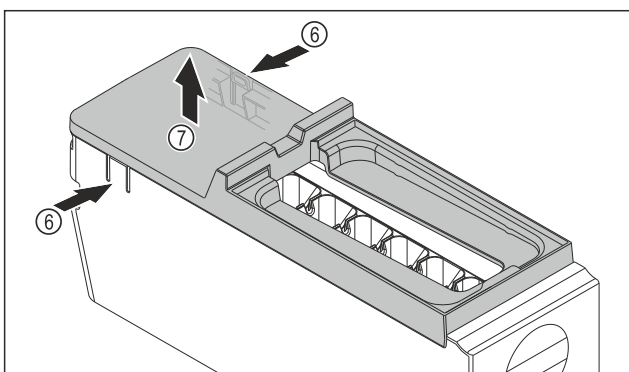

Fig. 132
- ▶ Removing the EasyTwist-Ice body cover: Push the tabs Fig. 132 (6) on both sides of the EasyTwist-Ice body with one hand.
- ▶ Use the other hand to remove the cover Fig. 132 (7) upwards.